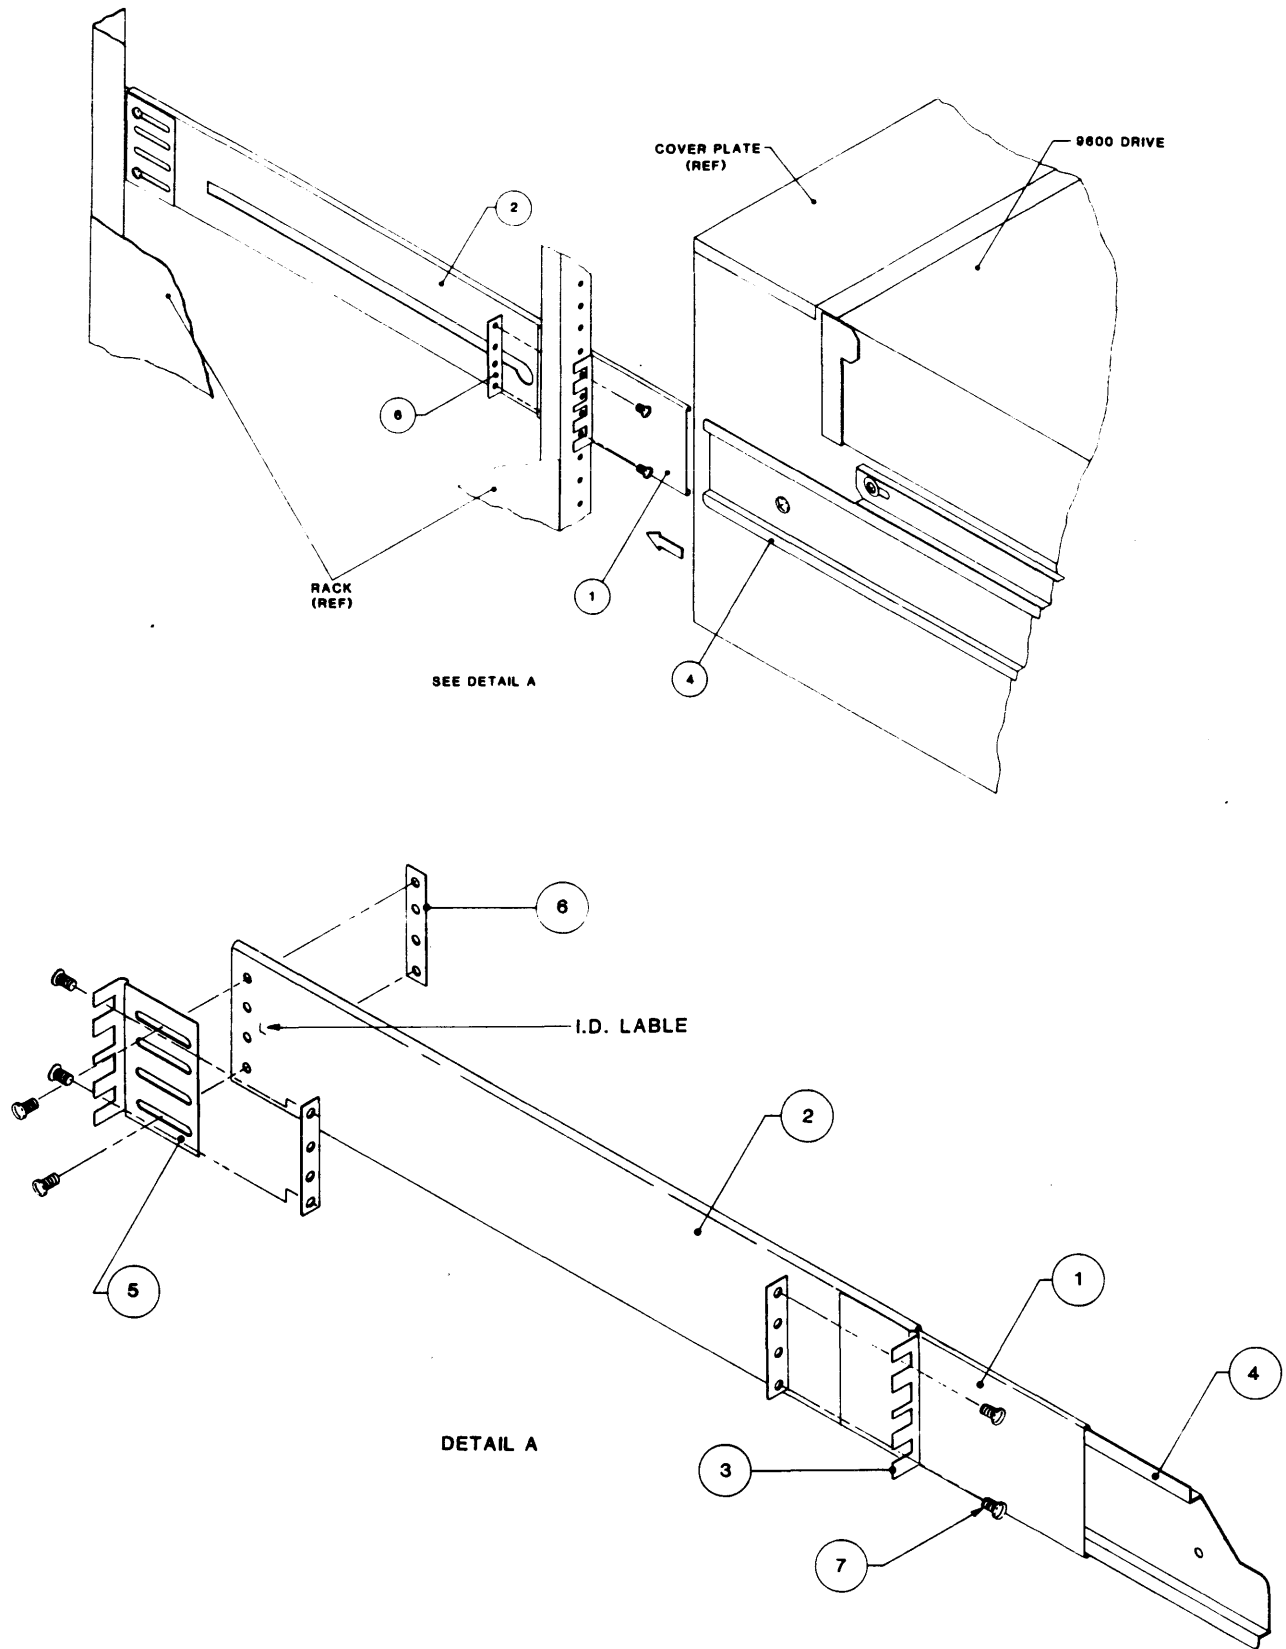

Figure 2-10 Track Subassembly Mounting
- A) Referring to Figure 2-10, Install the Right Track Assembly on the right side of the 19-inch Rack as follows:
- 1) Using the 10-32 Slotted Screws (7) and Nut Plates (6)* provided, loosely assemble an Adjustable Mounting Bracket (5) to the rear of the Right Track Assembly.
- 3) Aligning the bottom of the Fixed Mounting Bracket (3) at the 2-inch mark on the front of the 19-inch Rack, and using the 10-32 Screws (7) provided, mount the Fixed Mounting Bracket (3) to the front of the 19-inch Rack, and mount the Adjustable Mounting Bracket (5) (loosely attached to the rear of the Center Track) to corresponding holes in the the rear of the 19-inch Rack. Level the Track and tighten all Screws.